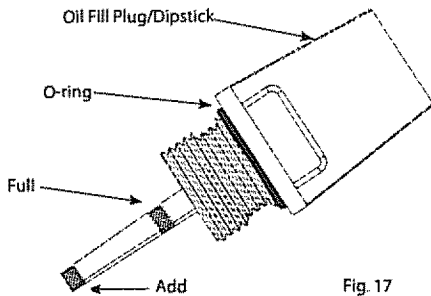

Fig. 17
5. Remove the oil fill plug/dipstick and check the oil level. Oil should be between the add and fill marks. (Fig. 17)
NOTE: Make sure the O-Ring is in place on the oil fill plug/dipstick when checking and changing the oil (Fig. 17).
**NOTE:** The bottle measure approximately 1.7 fluid oz/50 ml. Check the level with the dipstick. If the level is low, add a small amount of oil and recheck. Do not over fill (Fig. 17).